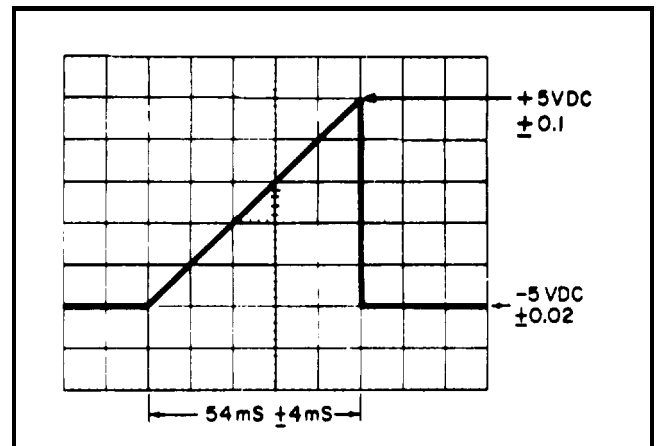

Figure 5-3. Scan Voltage Waveform Measurement
3. Observe and measure the SCAN IN/OUT waveform and compare it against the waveform shown in Figure 5-3. Rise time should be  $54 \pm 4$  milliseconds.